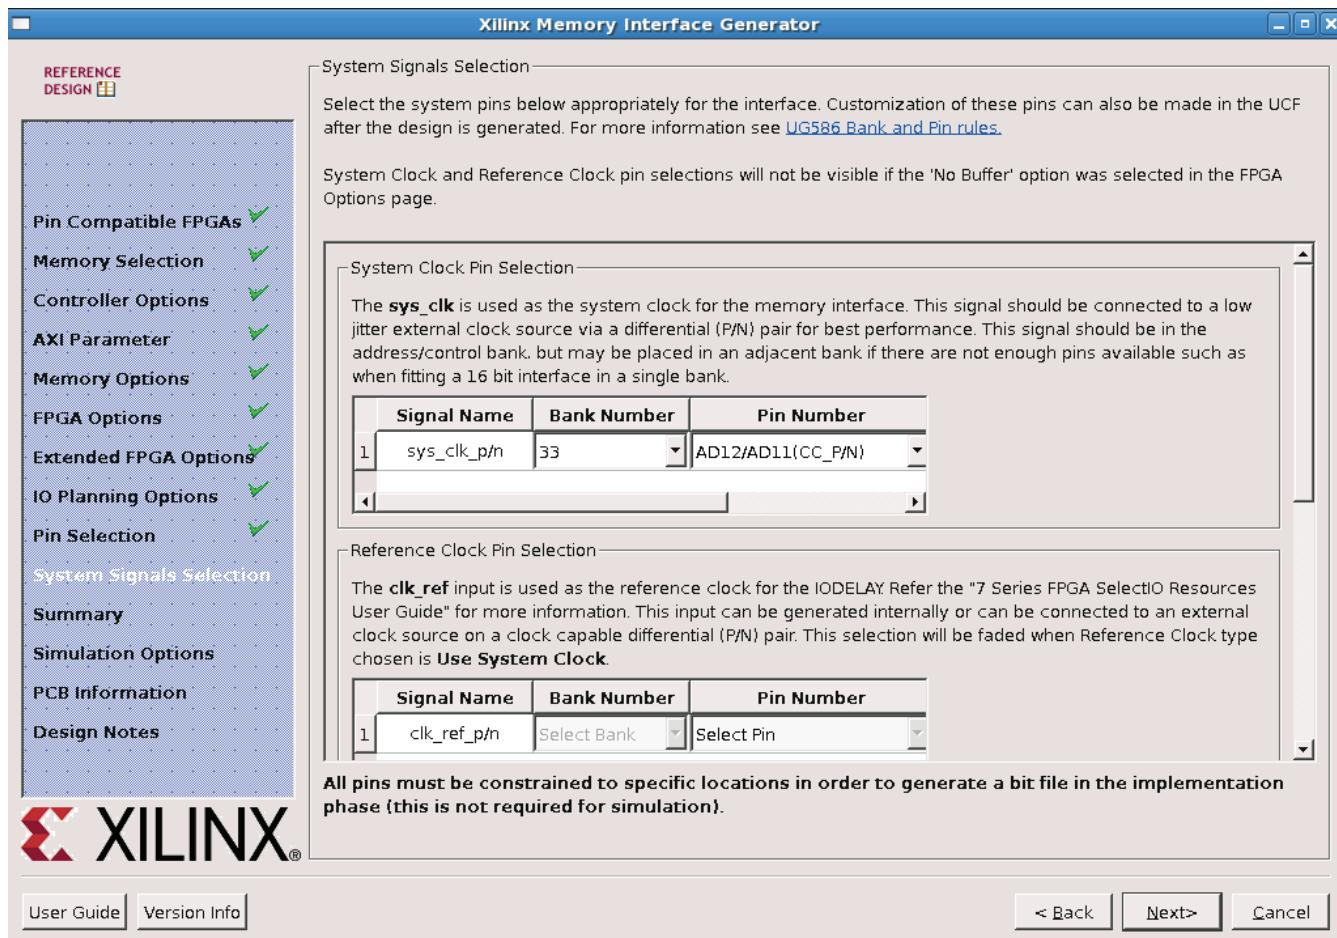

Figure 40: MIG System Signals Selection
28. For the System Signals Selection, set the sys_clk_p/n signal to **AD12/AD11**, then click **Next** (Figure 40).